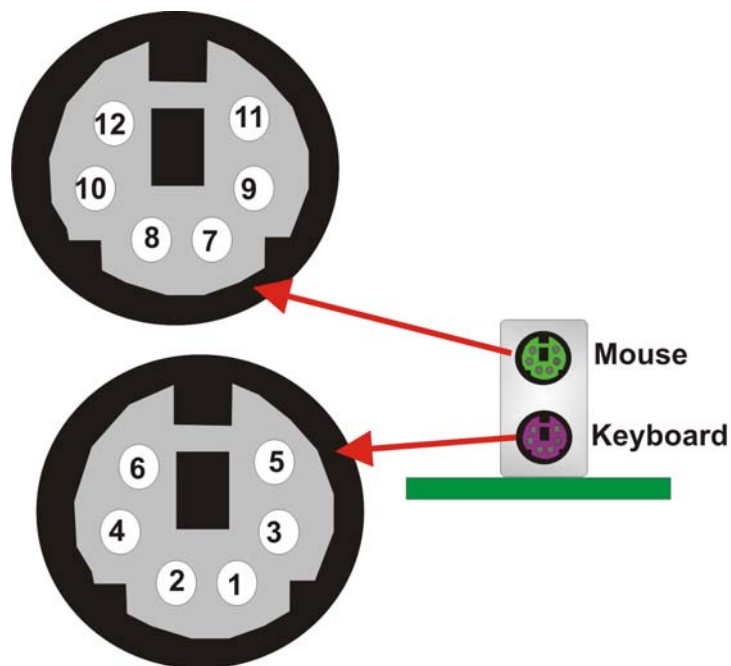

Figure 4-24: PS/2 Connector
- CN Pinouts:** See **Table 4-25** and **Figure 4-24**